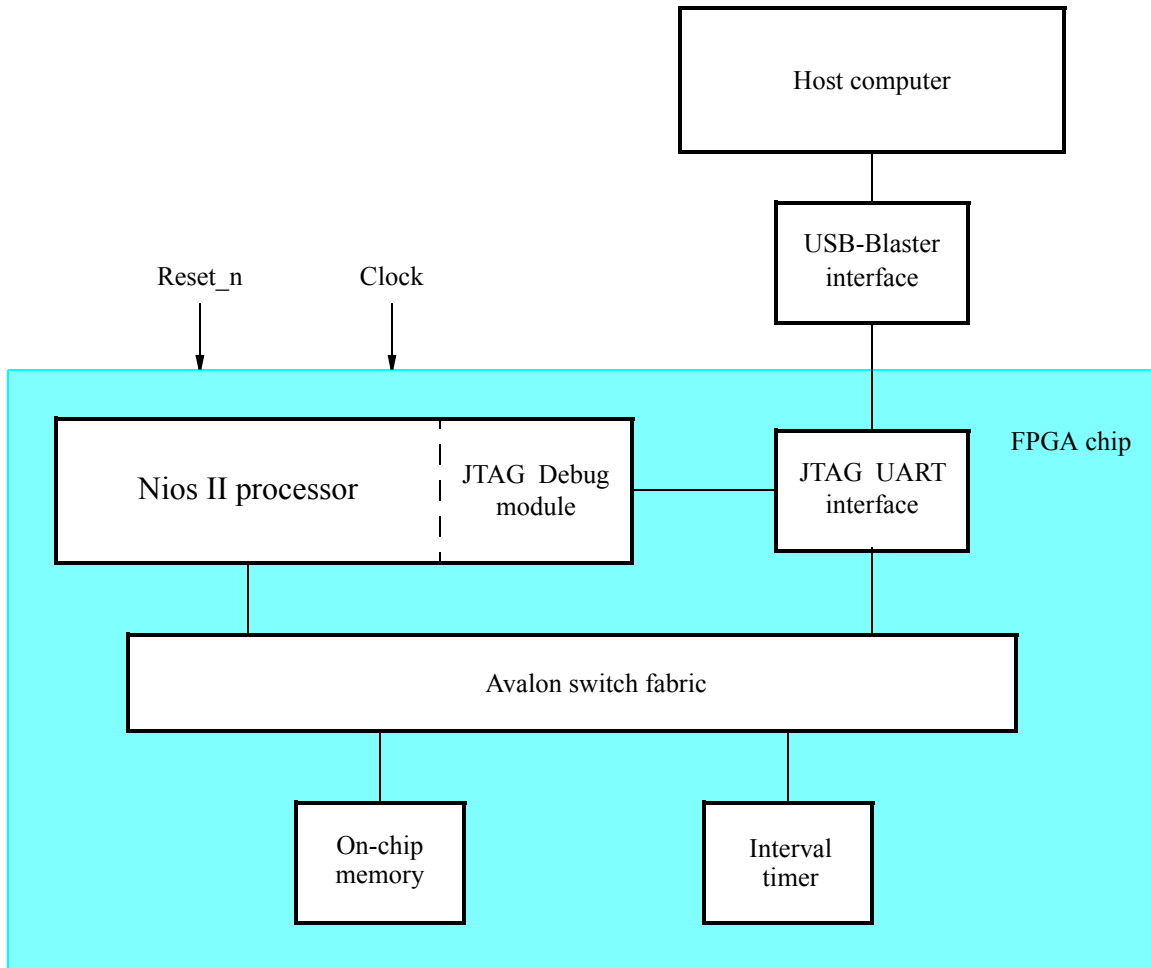

Figure 3. The desired Nios II system on an FPGA chip.
In this exercise, we will use the JTAG UART to transfer ASCII-encoded characters between a Nios II processor implemented on the DE-series board and the host computer. We will also make use of an “interval timer” circuit to provide fixed delays. A block diagram of the hardware that we want use is shown in Figure 3. We will design this hardware in Part I. Then, in Parts II to V, we will use the designed system to implement some programming tasks.
Use the Qsys Tool to create the system in Figure 3, which consists of a Nios II/s processor, an on-chip memory block, a JTAG UART and an Interval Timer.
1. Design the system in Figure 3.